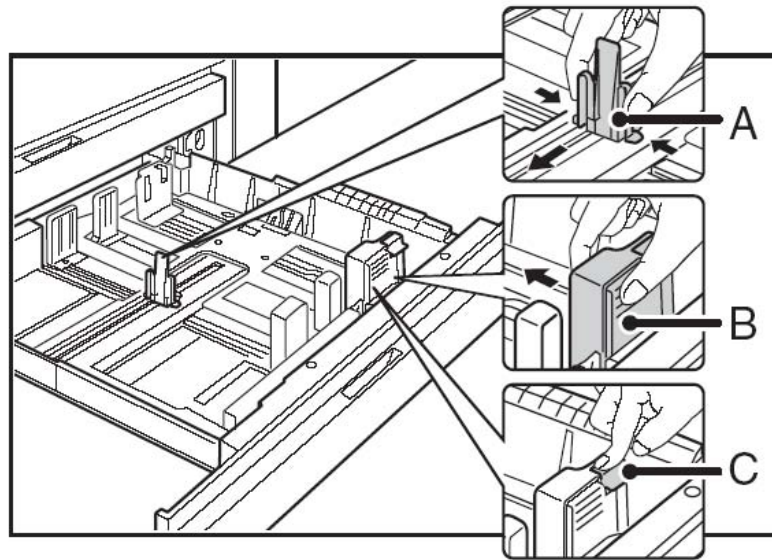

Fig. 3.2.4.a Unlocking the paper guides
4. Squeeze the two lock levers of the paper size guide A (as shown in figure 3.2.4.a) and slide the paper guide to the desired paper size.